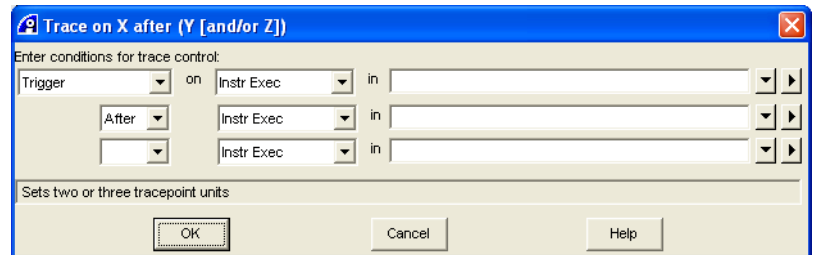

Figure 7-8 Trace on X after Y [and/or Z] dialog box
1. Select **Debug** → **Tracepoints** → **Trace on X after Y [and/or Z]...** from the Code window main menu to display the Trace on X after Y [and/or Z] dialog box. Figure 7-8 shows an example: